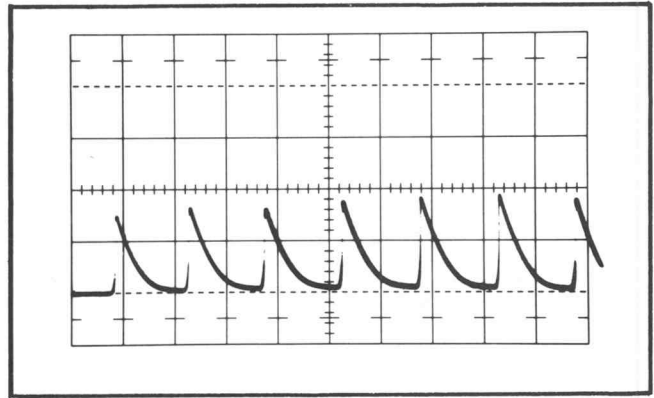

Fig. 6-22. 1 MHz marker display with VIDEO FILTER switched to ON; 20 ms/cm sweep rate.
- c. Switch the VIDEO FILTER to On (up) and check for an attenuated display resembling a sawtooth (see Fig. 6-22).